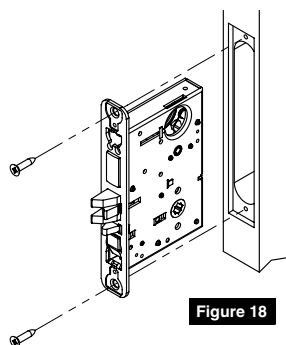

Figure 18
2. Insert mortise lock into door and hand tighten longer 1" mounting screws. (Figure 18)